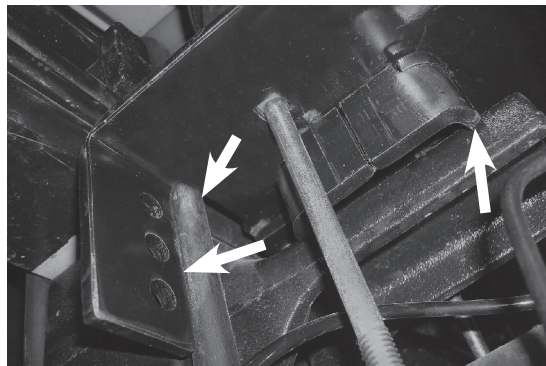

fig. D.14
1. With the vehicle supported by jack stands, drop the axle or raise the body so that the assemblies can be put into position in between the axle and frame. Set the driver's side (left) and passenger's side (right) assemblies into position so that the lower bracket cup rests on the jounce bumper strike plate. Push the lower bracket so that it is flush against the leaf spring stack. The flanges on the lower bracket main plate should lock on the sides of the U-bolt (Fig. D.14).